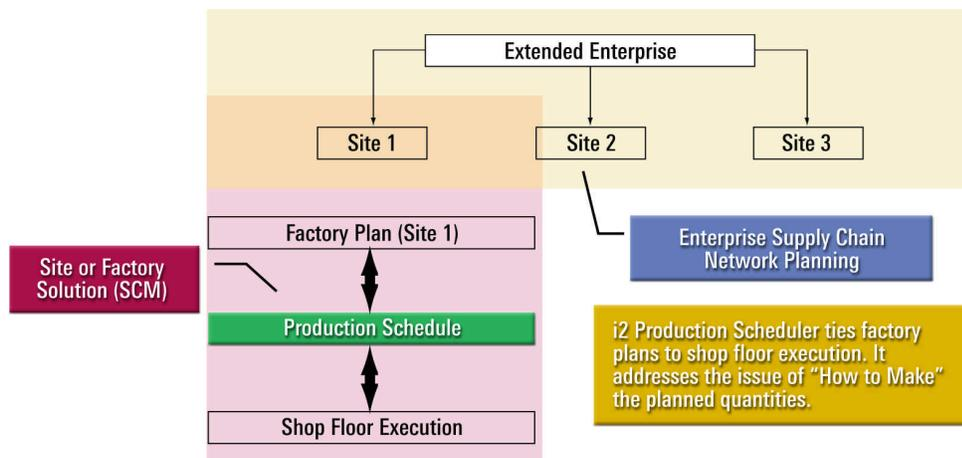

Figure 4
- A schematic of the factory-level business workflow is shown in Figure 4. Production Scheduler is designed to bring factory plans to realization by coupling planning to execution via optimal scheduling.